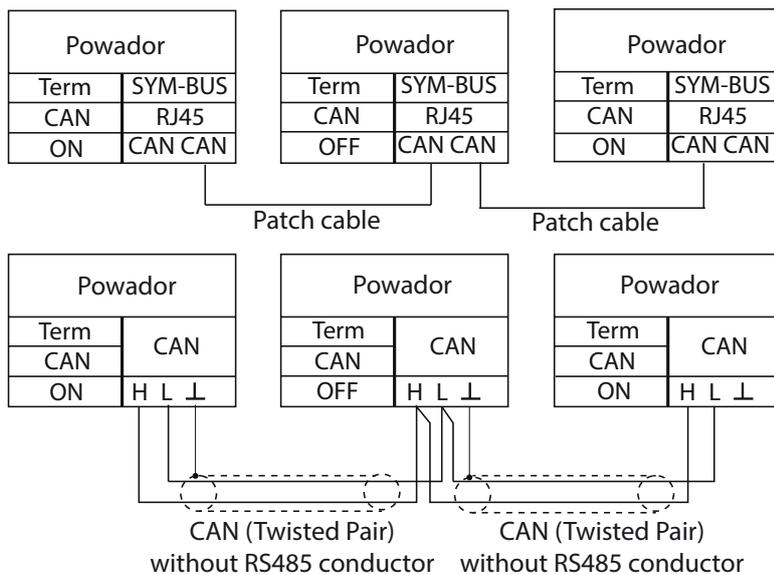

Figure 22: SYM bus wiring diagram in group of three
When a patch cable with an RJ45 plug is used, an RS485 connection, which is required for a proLOG connection, is established at the same time (Figure 22 on page 28).
- GND with GND (see Figure 22 on page 28)